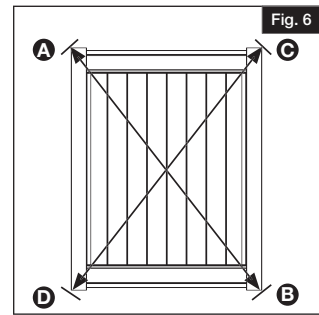

Fig. 6
- 4.** Ensure gate is square. Measure diagonally from top of left corner rail (A) to bottom of right corner rail (B) and note the length. Then, measure diagonally from top of right corner rail (C) to bottom of left corner rail (D). Note the length. Make sure both measurements are the same before installing screws into uprights (Fig. 6).